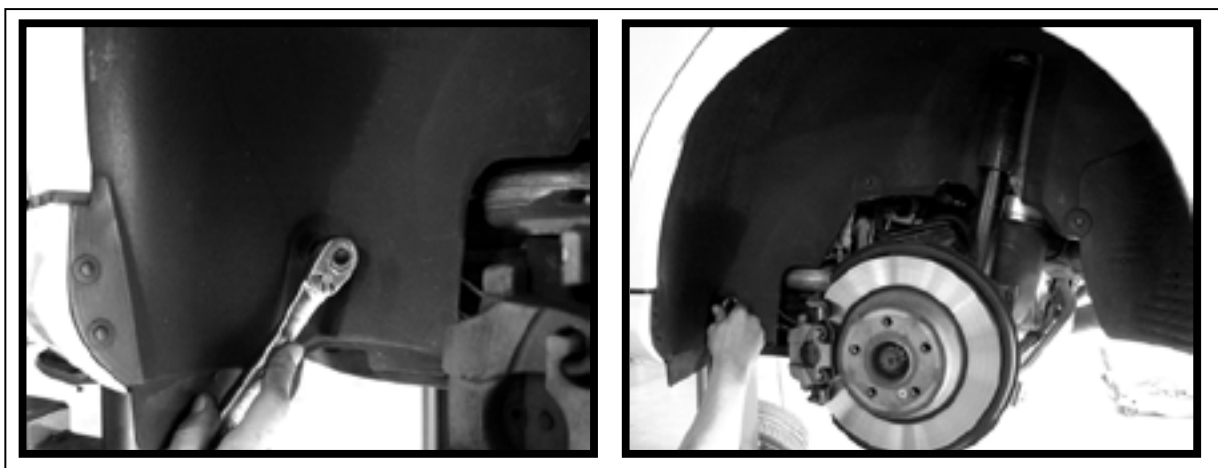

FIGURE 10-4
7.0 REMOVE BOLTS FROM FENDER WELL. (FIGURE 10-4)